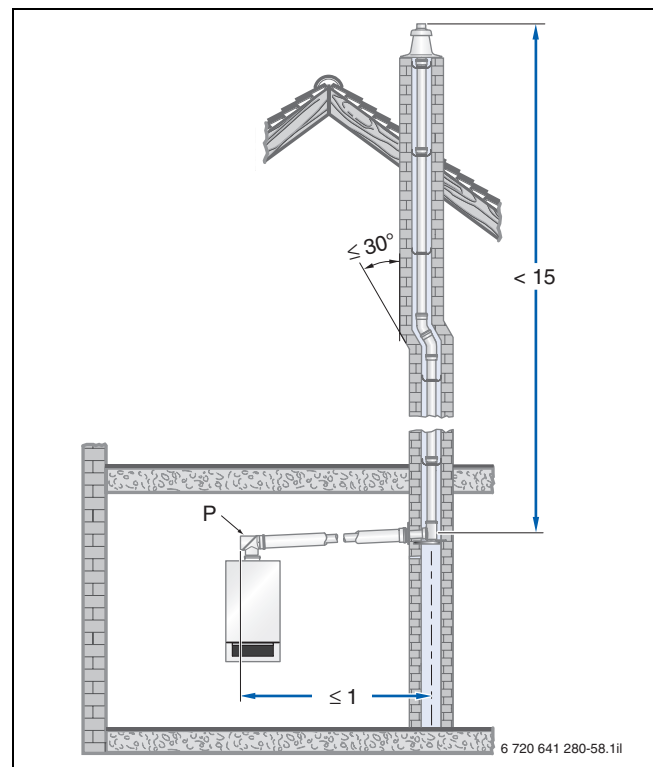

Fig. 118 Example with the inspection aperture (P) located in a flue without diversions in the installation room (dim. in m)
According to DIN 18160-1 and DIN 18160-5, flue systems for **balanced** flue operation must be able to be inspected and cleaned easily and safely. For this, allow for inspection apertures (→ Fig. 118 and Fig. 105).
- at the face of the straight horizontal section of the flue, no further than 1 m from the diversion into the vertical section, subject to there being no diversion in between (→ Fig. 118), **or**
- The lower inspection aperture is implemented in accordance with DIN 18160-1 and DIN 18160-5 (→ Fig. 118 and Fig. 105).